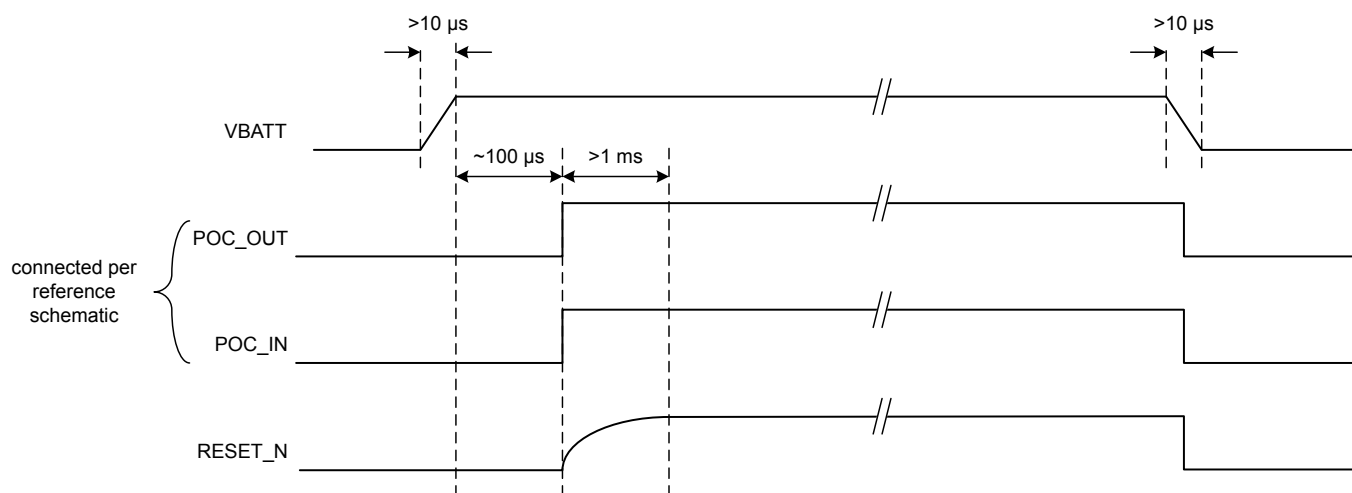

Figure 7.1. Power Up Sequence
- RESET_N: RESET_N is an open-drain signal which will be pulled low during a chip reset. It is released after POC_IN is high. RESET_N should be connected to an RC circuit to fulfill the timing requirements shown in Figure 7.1 Power Up Sequence on page 30.
Figure 7.1 Power Up Sequence on page 30 shows the signal timing when POC_OUT, POC_IN, and RESET_N are connected per the recommended schematic. The POC_IN-to-RESET_N delay will occur when POC_IN transitions from low to high. VBATT in the figure refers to the connection of UULP_VBATT_1 and UULP_VBATT_2 (connected together in the schematic).